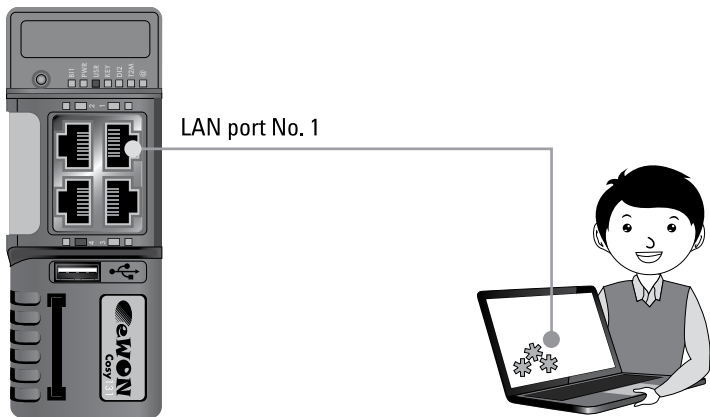

FIGURE 6-3: Connecting your computer to your eWON.
4. **Download and install eBuddy.** eBuddy is eWON's free maintenance utility. It is used to read basic information about the eWON, set the network (IP) address, update the firmware, and back up or restore the system. You can download eBuddy from the eWON website at <https://support.ewon.biz/software>. After launching the installation wizard, follow the instructions to complete the setup and launch eBuddy.
5. **Connect an Ethernet cable from your computer to the eWON's local area network (LAN) port number 1 (see Figure 6-3).** Either a straight-through or crossover Ethernet cable will work.